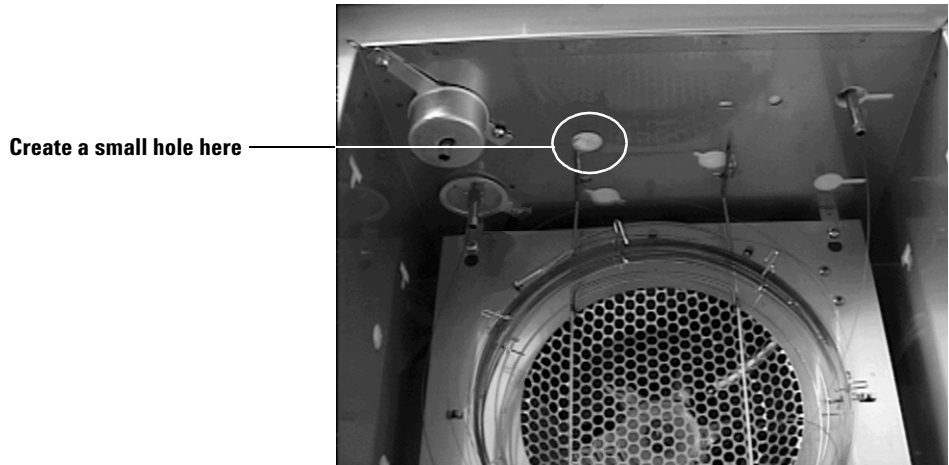

Figure 5 The circular cutout with a small hole
- 3 Looking inside the GC oven, find the circular cutout located closest to the front inlet at the top of the inner oven (see Figure 5).